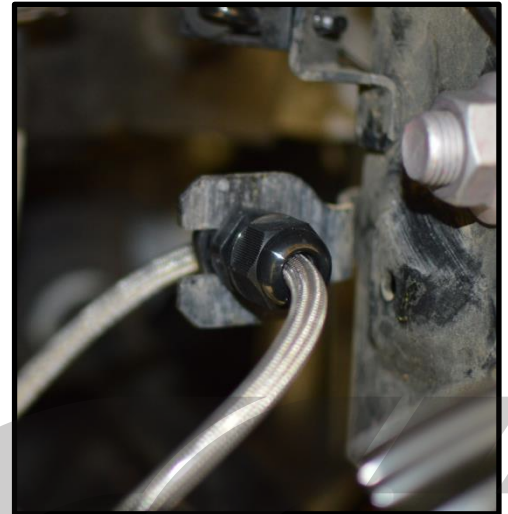

Figure 2j
- l) **Install the brake line in the factory holder attached to the strut.** The top portion of the holder unscrews. This can be tightened in place with a wrench but do not over tighten. The other end nut can be tightened by hand. This keeps the line from sliding back and forth. Shown **Figure 2j**.